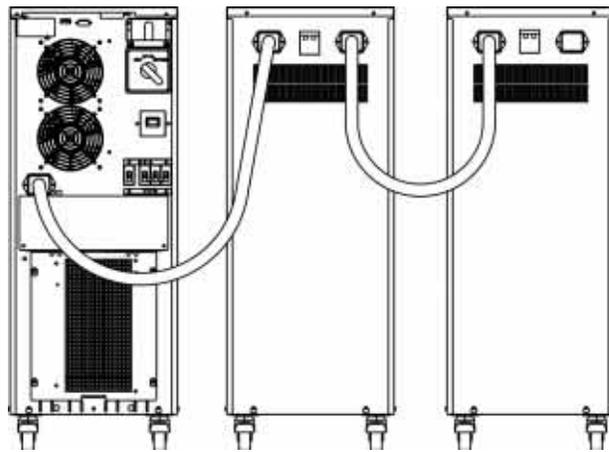

Fig. 10: Connecting External battery Cabinets
Battery cabinets (1 or 2 units) can be connected to the UPS. A cable used for connecting the batteries to the UPS (or battery cabinet to battery cabinet as shown in Figure 10) is provided with each battery cabinet.
3. Plug the other end of the cable into the first battery cabinet, see Figure 10 above.